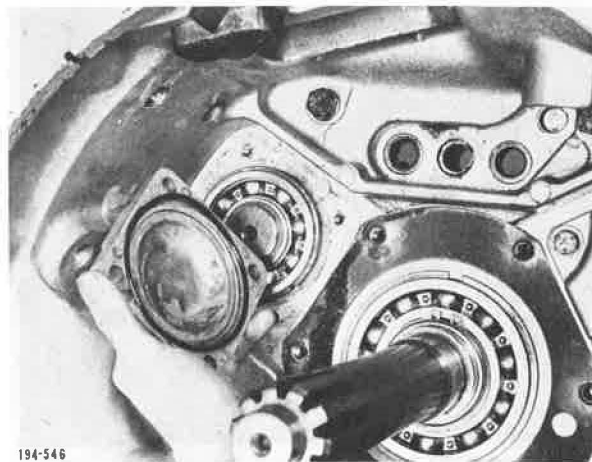

Figure 5-508. Installing Cover
11. Install front countershaft front bearing covers. See Figure 5-508.